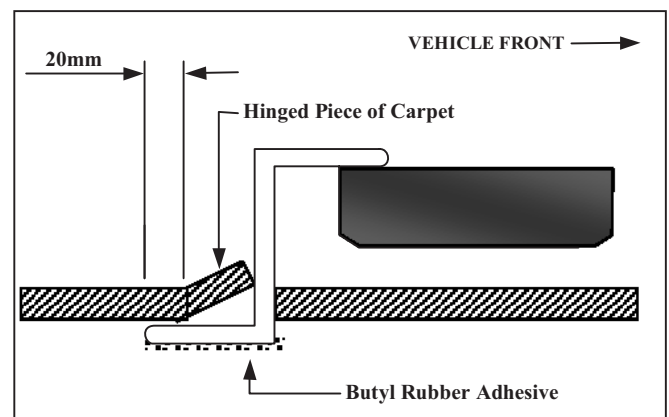

Figure F1
- ➡ 3. Clean floor of vehicle and rear bracket bottom with cleaner to remove dust and oils. Peel off paper coating from one side of butyl rubber adhesive and attach to rear of sub woofer bracket. Remove the other tape cover then install the sub woofer in vehicle using front locator pins as guides. (Figure F1) Replace carpet flap over rear bracket.